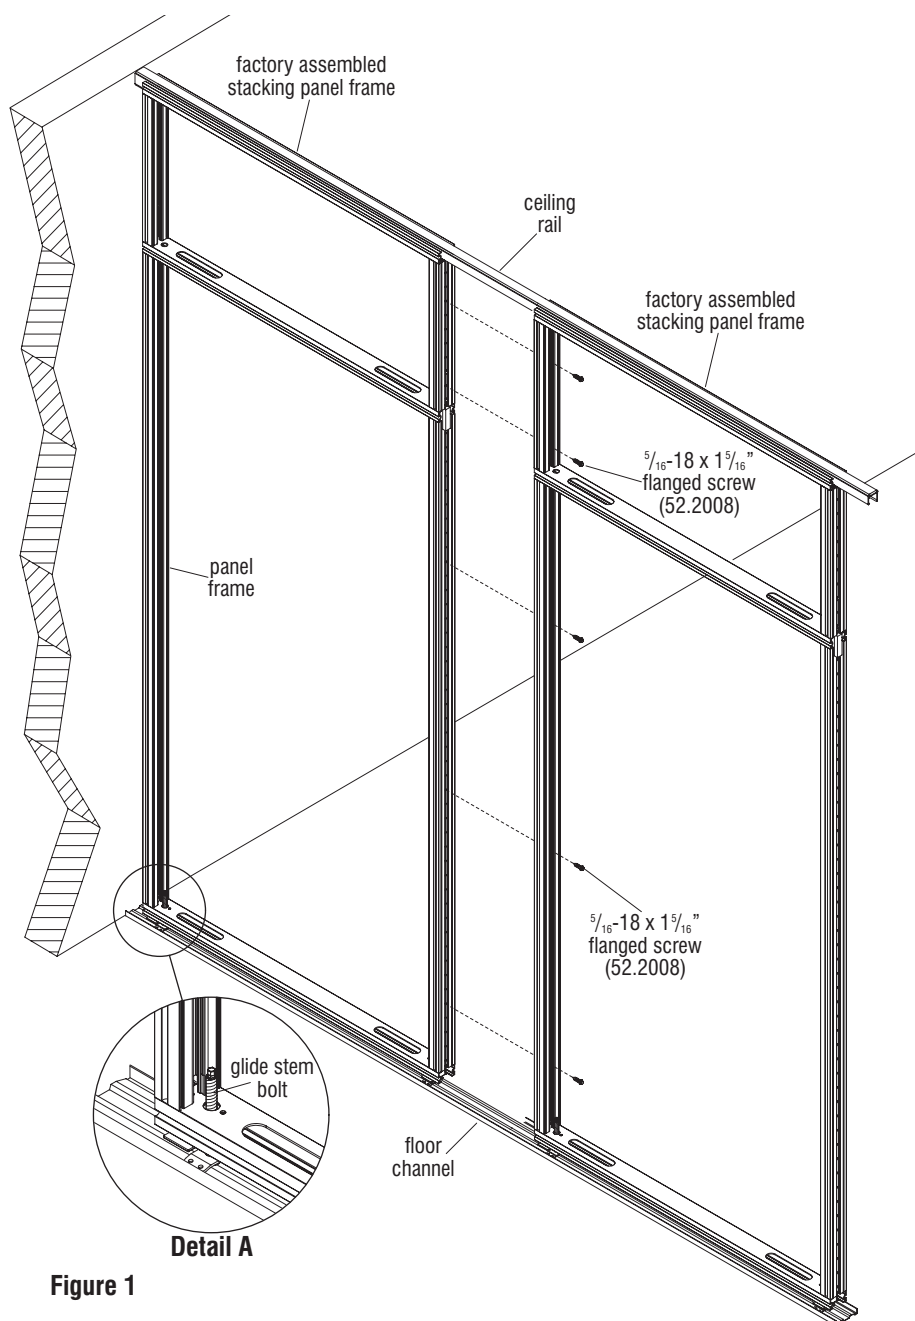

Figure 1
1. Stage Evoke panels with factory assembled solid or acoustic stacking sections to the general location where they will install to the floor channel and ceiling rail (Figure 1).
4. One at a time, carefully rotate the panel with factory installed stacking section up, setting the bottom of the assembled unit into the floor channel and tip the unit up vertical, directly under the ceiling rail. With help holding the panel with stacking section upright vertical, use a power drill, 18" extension with  $\frac{5}{16}$ " socket and raise the assembly up into the ceiling rail by turning all glide stem bolts clockwise (Figure 1 & Detail A).
5. Assure that the panel with stacking section unit is set to its final installation location, then adjust glides to achieve a level and plumb panel, fully engaging the ceiling rail (Figure 1 & Detail A).
tight to the first and secure the panel frames together using three evenly spaced  $\frac{5}{16}$ -18 x  $1\frac{5}{16}$ " flanged screws at pre-drilled holes in the panel's vertical frame uprights (Figure 1 & Detail A).
7. Next, at the upper stacking section unit of the second assembly, hold the second section tight to the top of the first and secure together using two or three  $\frac{5}{16}$ -18 x  $1\frac{5}{16}$ " flanged screws at pre-drilled holes to secure the tops of the units together as illustrated (Figure 1).